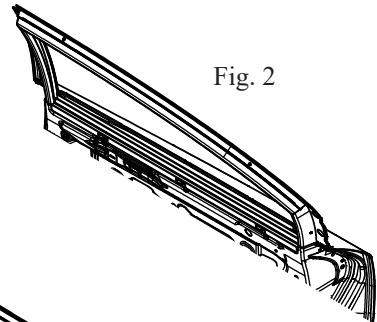

Fig. 2
- A. Remove the OEM rubber molding from the OEM Door Panel (See Fig. 2) and replace on to the vehicle door window frame. (See Fig. 2)